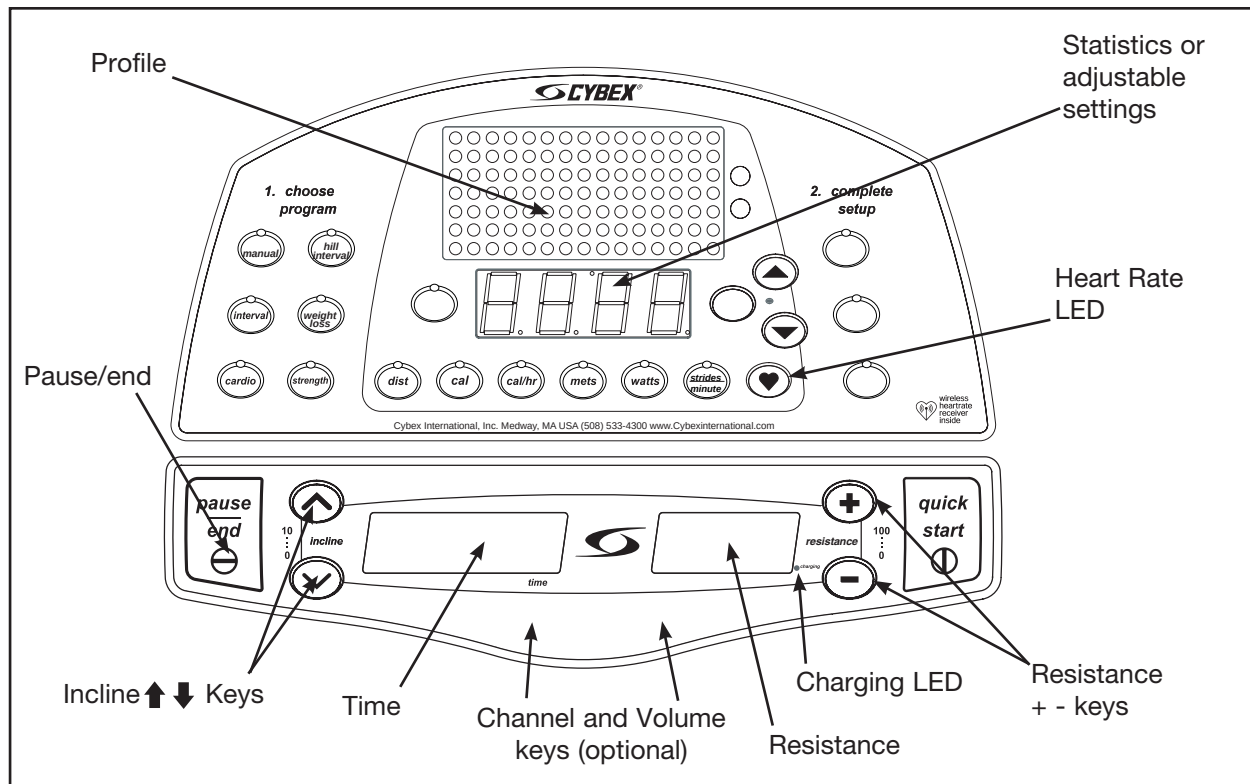

Figure 1
6. Observe the four displays (See Figure 1):
NOTE: Heart Rate is scanned only when you are holding the contact heart rate grips or using Polar compatible heart rate transmitter. See Figure 1.